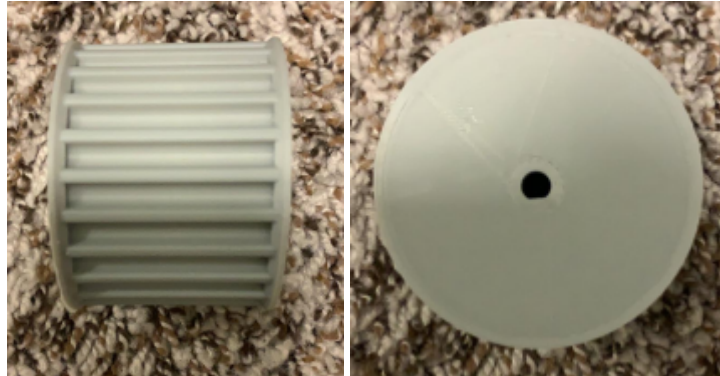

Figure 7: Wheels
10. Install the wheels over the motor shafts with the help of hole present in the wheels as shown in figure 7.